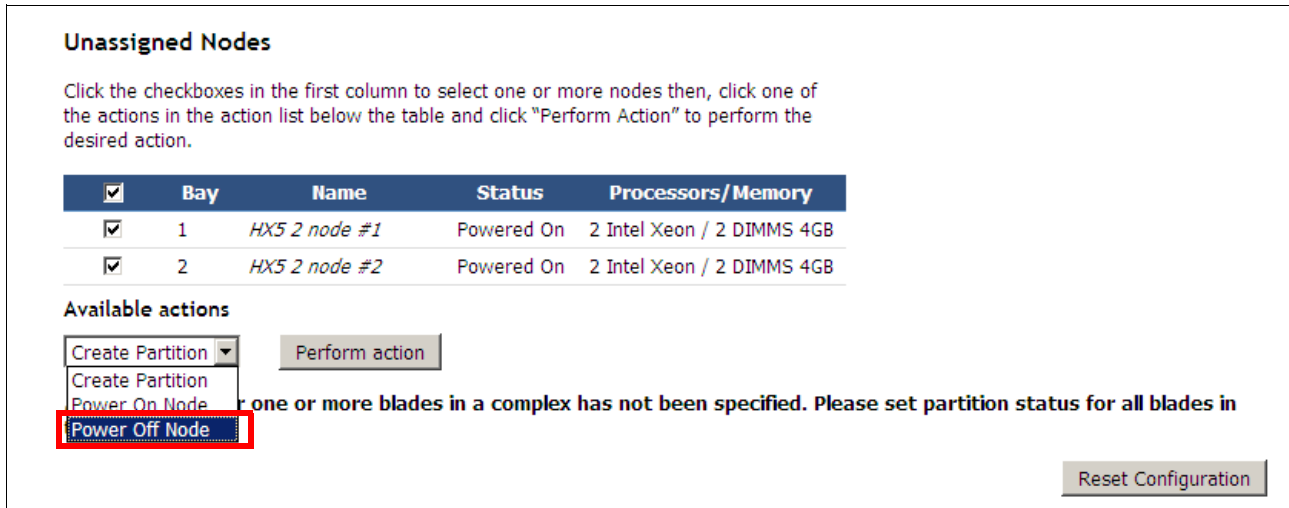

Figure 8-38 Powering off an HX5 from the scalable complex configuration page
4. If the systems are powered on, you can shut them down from this page by clicking the check boxes next to them and by selecting the **Power Off Node** action from the Available actions pull-down, as shown in Figure 8-38 on page 404. The Status will change to Powered Off momentarily after the Power Off Node action has been applied.